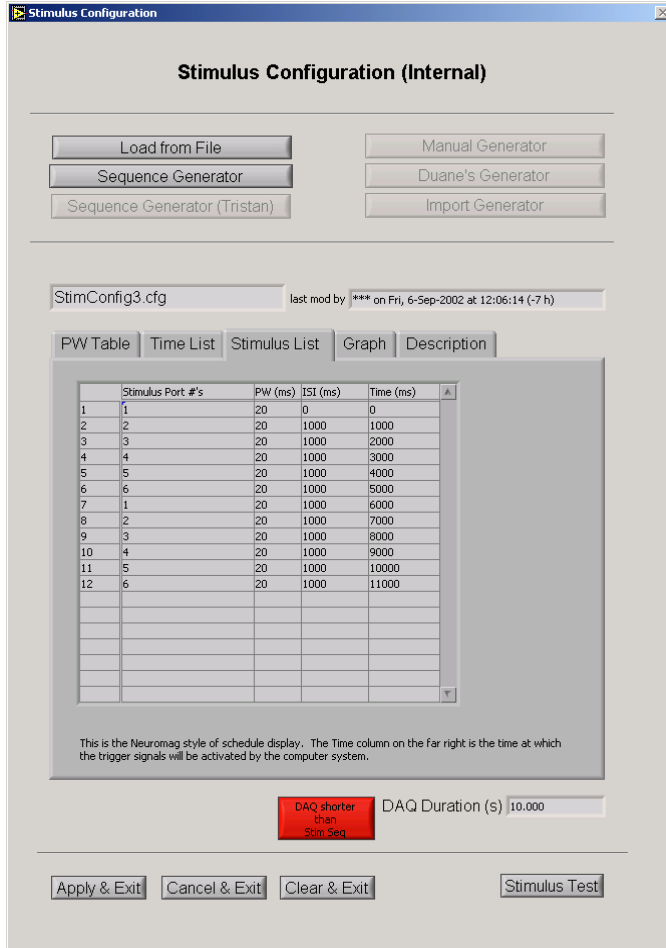

Figure 32: Stimulus Configuration (Stimulus List)
The **Stimulus List** tab gives a sequential list of the triggers applied, along with their pulse width (PW), inter stimulus interval (ISI), and initiation times, in milliseconds, as shown in **Figure 32**.